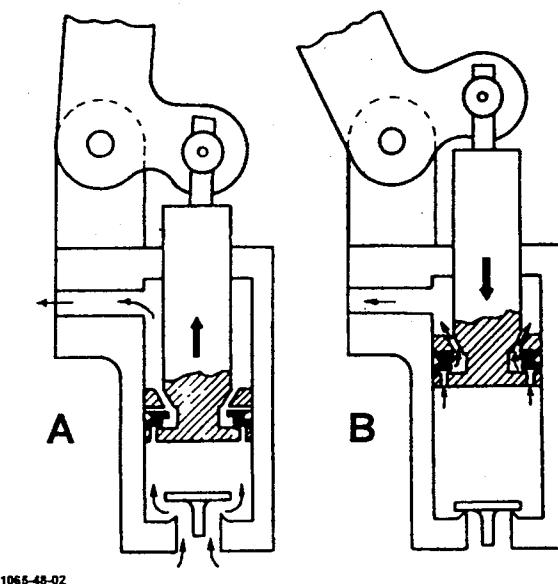

Fig 2 Functional diagram
4. The piston head has a deep groove which has holes on both sides for the passage of fluid, as shown in Fig 2. A rubber piston ring, which is an interference fit in the cylinder and a slack fit in the groove, acts as a transfer valve in addition to sealing the space between the piston head and the cylinder wall. A backing washer is fitted to prevent the rubber piston ring from extruding through the holes in the piston head when under high pressure.
6. The full forward and return movement of the handle equals one stroke of the pump (see Fig 2).